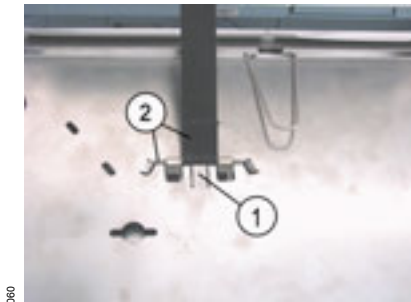

Fig. 48 Detail view of operator control unit: Metal pin and retaining strap
- 6 Hold the spring (Fig. 48/1) pressed down and at the same time push the metal pin and the retaining strap (Fig. 48/2) out of the lock.